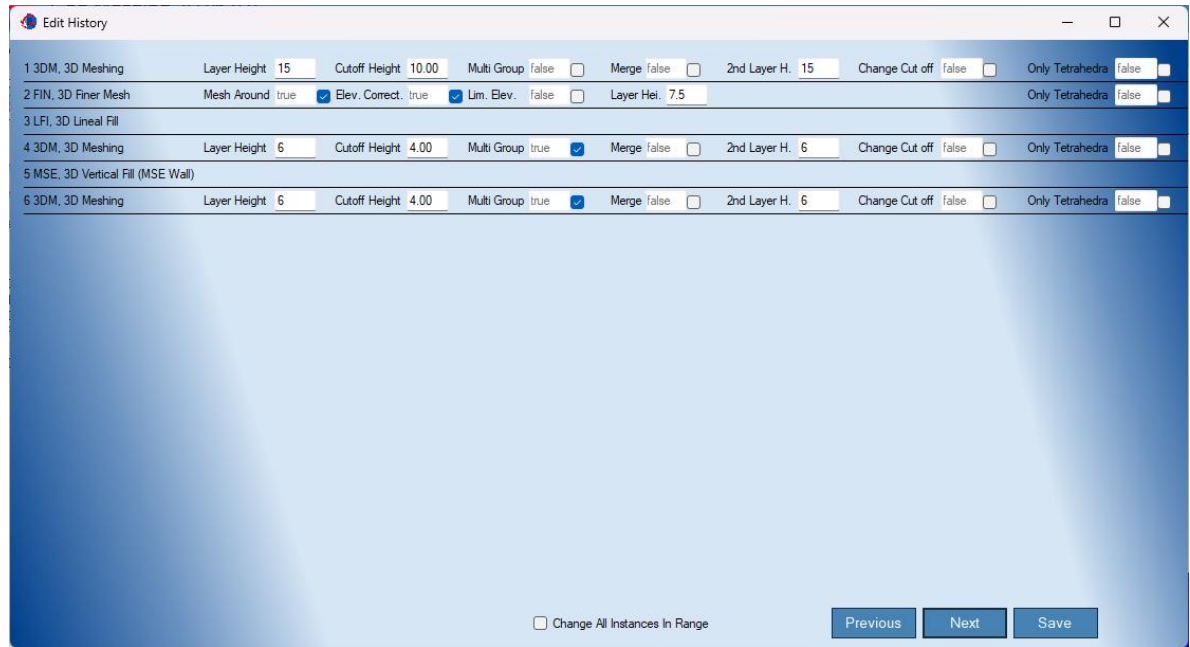

Figure 6: Geo Meshing History – Edit, edits option in history.
- **Edit:** This option enables to edit the recorded events in the history window (section 5d)). Figure 6 shows the dialog windows for this option. Currently, only “3D Meshing” and *Finner* events are editable.